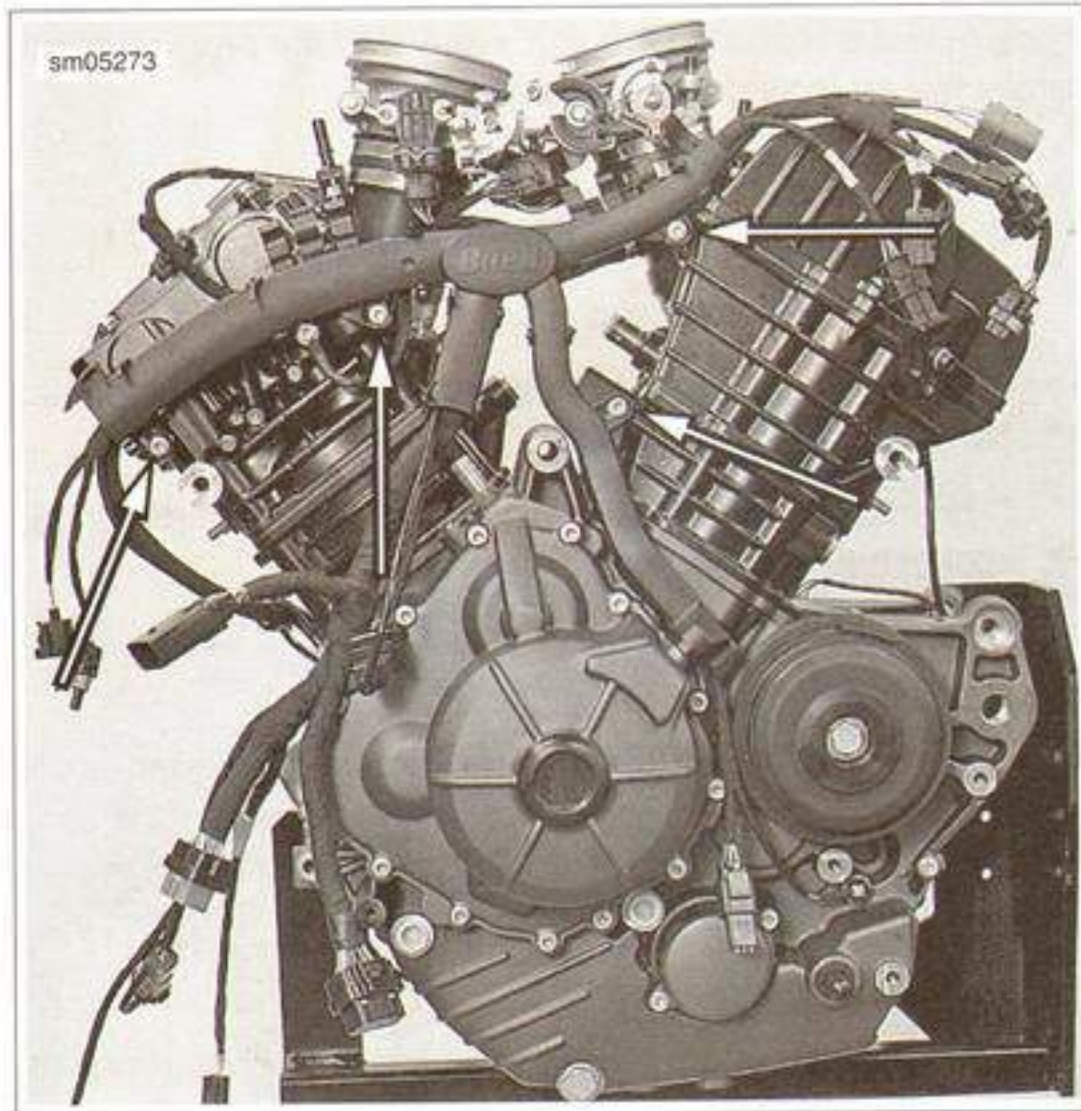

Figure 7-109. Engine Wire Harness Support Fasteners
- b. See Figure 7-109. Remove the wire harness support fasteners.